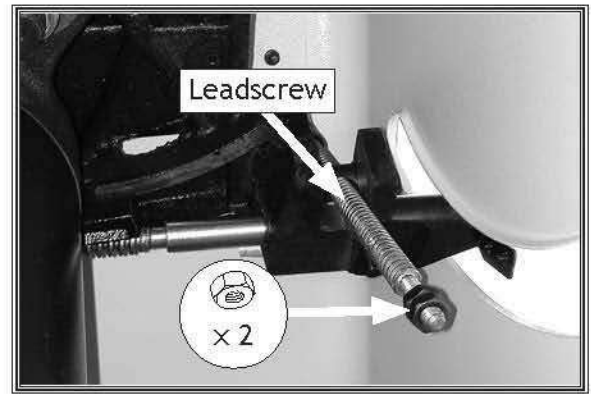

Figure 101. Location of 90° stop nuts.
5. Loosen (2) M8-1.25 hex nuts on leadscrew (see **Figure 101**).